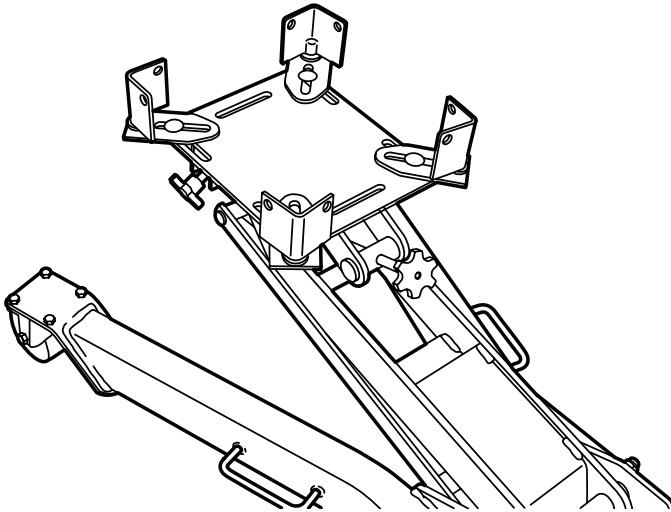

Figure 1
1. Install the transmission adapters on the transmission jack mounting plate using the carriage bolts, washers, and flange nuts provided. Hand tighten the flange nuts. See Figure 1.